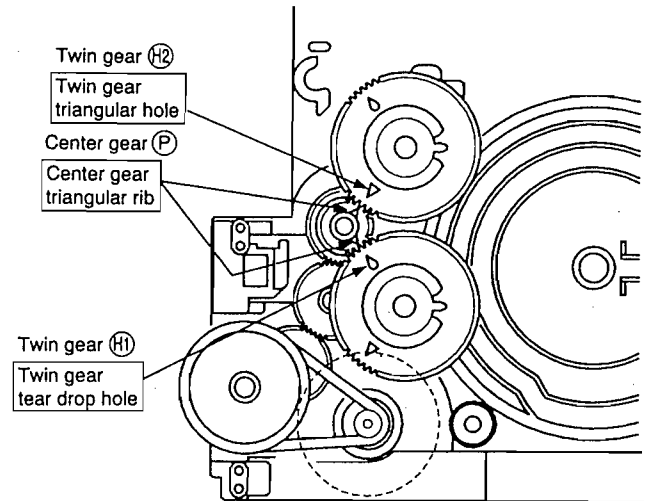

Fig. 1-11 Attach the gears
1. Attach the center gear ㉙, twin gears ㉚ and ㉛ in the positions indicated in Fig. 1-11.